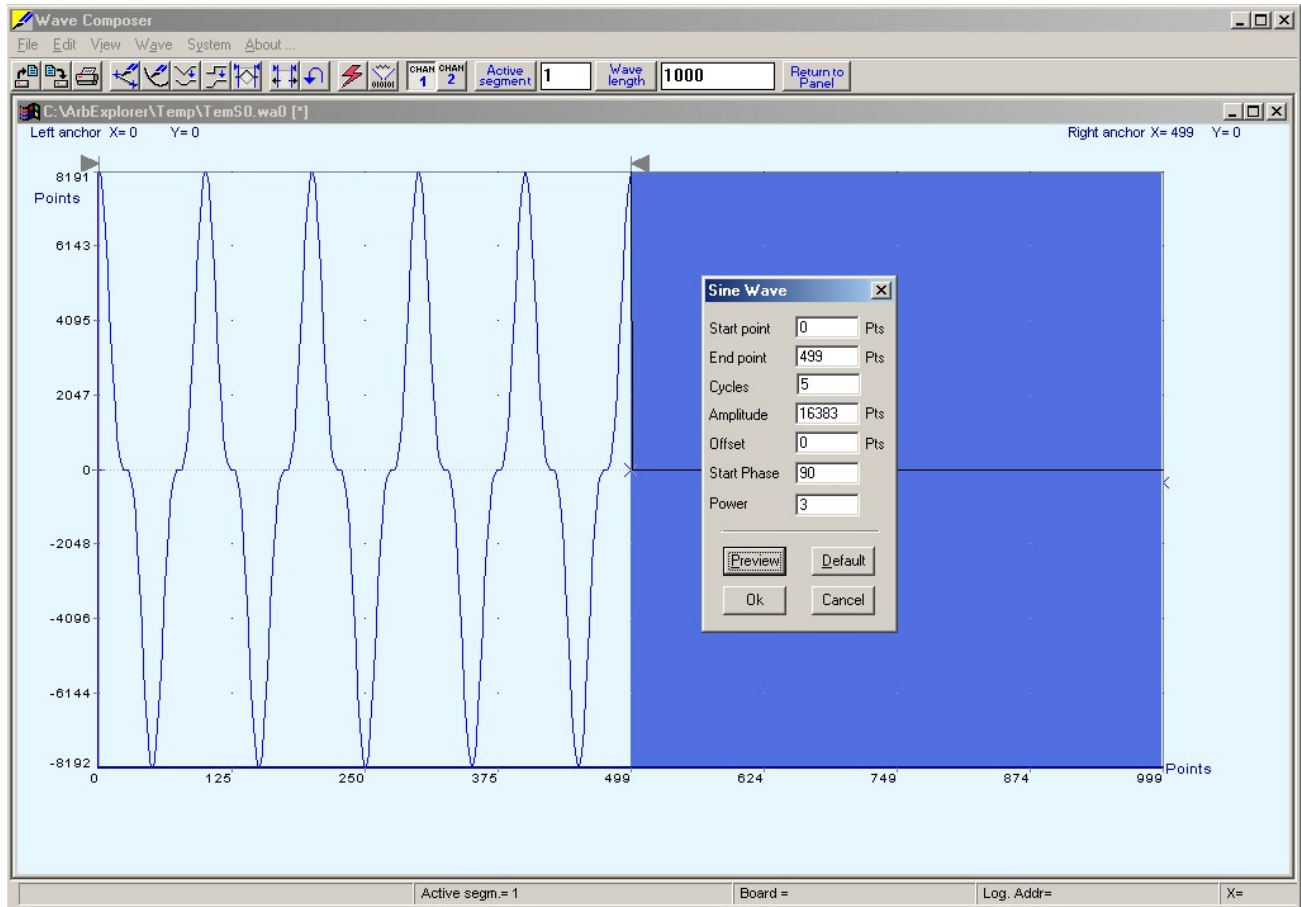

Figure 5-14. An Example of Generating Sine Waveforms From the Built-in Library.
You can create any waveform from the built-in library using the Wave command. Clicking on one of the Wave options will open a dialog box. An example of the Sine waveform dialog box is shown in Figure 5-14.
Use the following procedure to create sine waveforms from the built-in library. Click on Wave, then sine... the dialog box as shown in Figure 5-14 will appear. You can now start programming parameters that are available in this box.
- 2) You can also place your anchors in a more precise manner from the waveform library by programming the start and end points for the waveform. An example of anchor placement using the sine dialog box is shown in Figure 5-14.